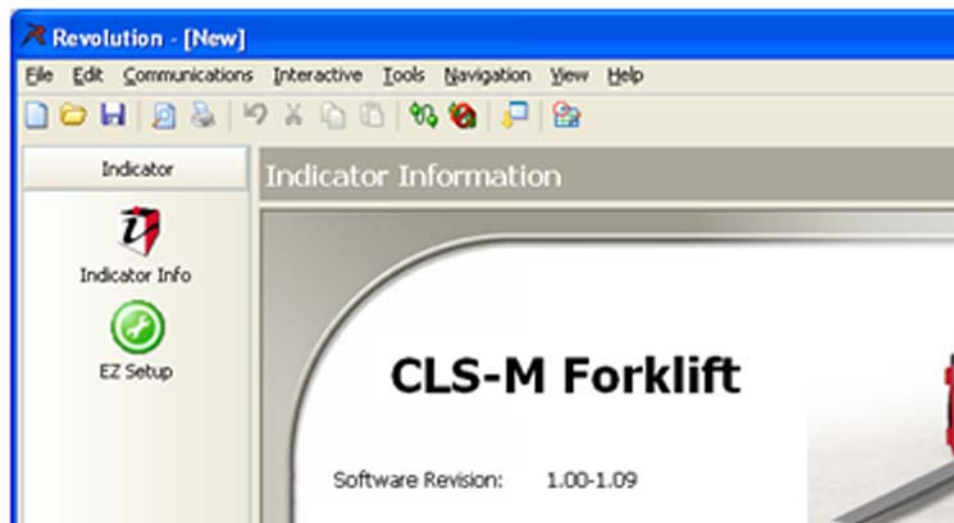

Figure 4-3. Expanded Pitch Angle Selection
- Once selected, the main screen shown in Figure 4-3 is displayed.